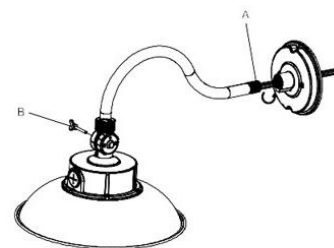

Fig 3
3. Thread the wires coming out of the neck through the mounting base, then thread the neck onto the mounting base (Fig 3, A). Secure the neck to the lampshade with the butterfly bolt (Fig 3, B).